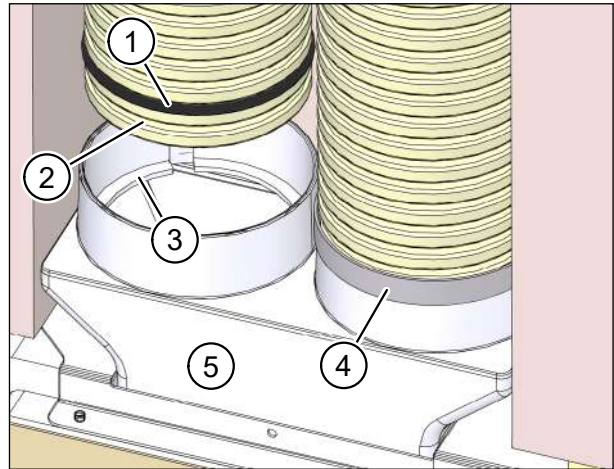

Fig. 29: Fixing a flexible pipe connection with sealing tape
- ▶ Insert the sealing rings (item 1 in Fig. 29) into the second groove on the flexible pipe. These are available as accessories M-WRG-FR-DR75 (part no. 5056-41/75).
- ▶ Insert the flexible pipes into the openings in the flexible pipe connection. Make sure that the first groove on the flexible pipe (item 2 in Fig. 29) engages with the locking ring (item 3 in Fig. 29) on the flexible pipe connection.
- ▶ Recommendation: Seal the joint with a layer of sealing tape 30 mm wide (item 4 in Fig. 29).
- ▶ Insert the flexible pipe connection (item 5 in Fig. 29) into the opening in the wall box.